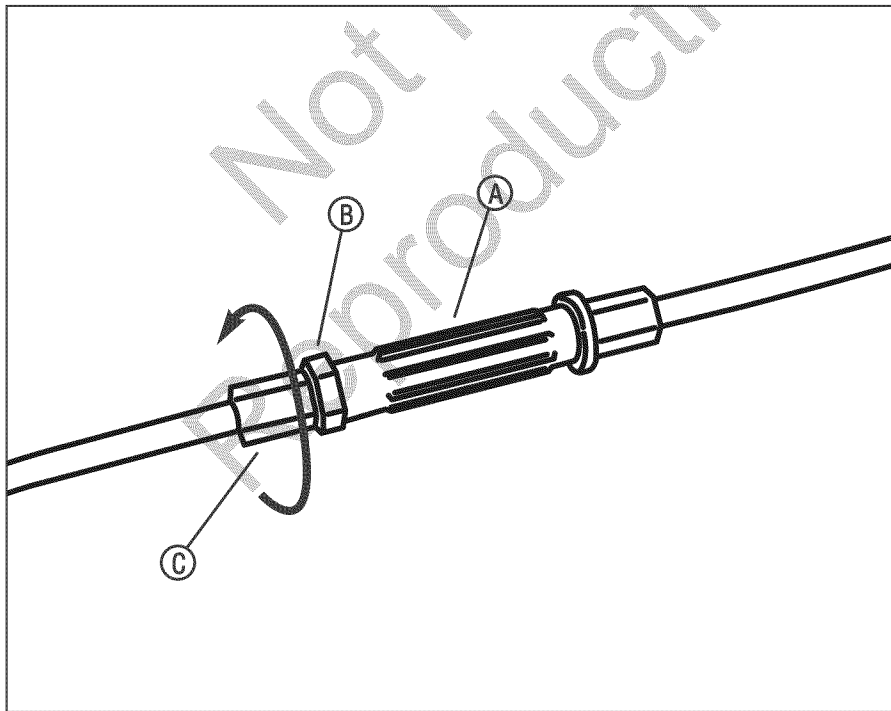

Figure 17: Adjusting the drive cable
1. If the drive system is slipping, loosen the jam nut (B, Figure 17) on the adjustment turnbuckle (A), and rotate the ferrule (C) one-half turn in the direction shown. Test the drive system and check for slippage.